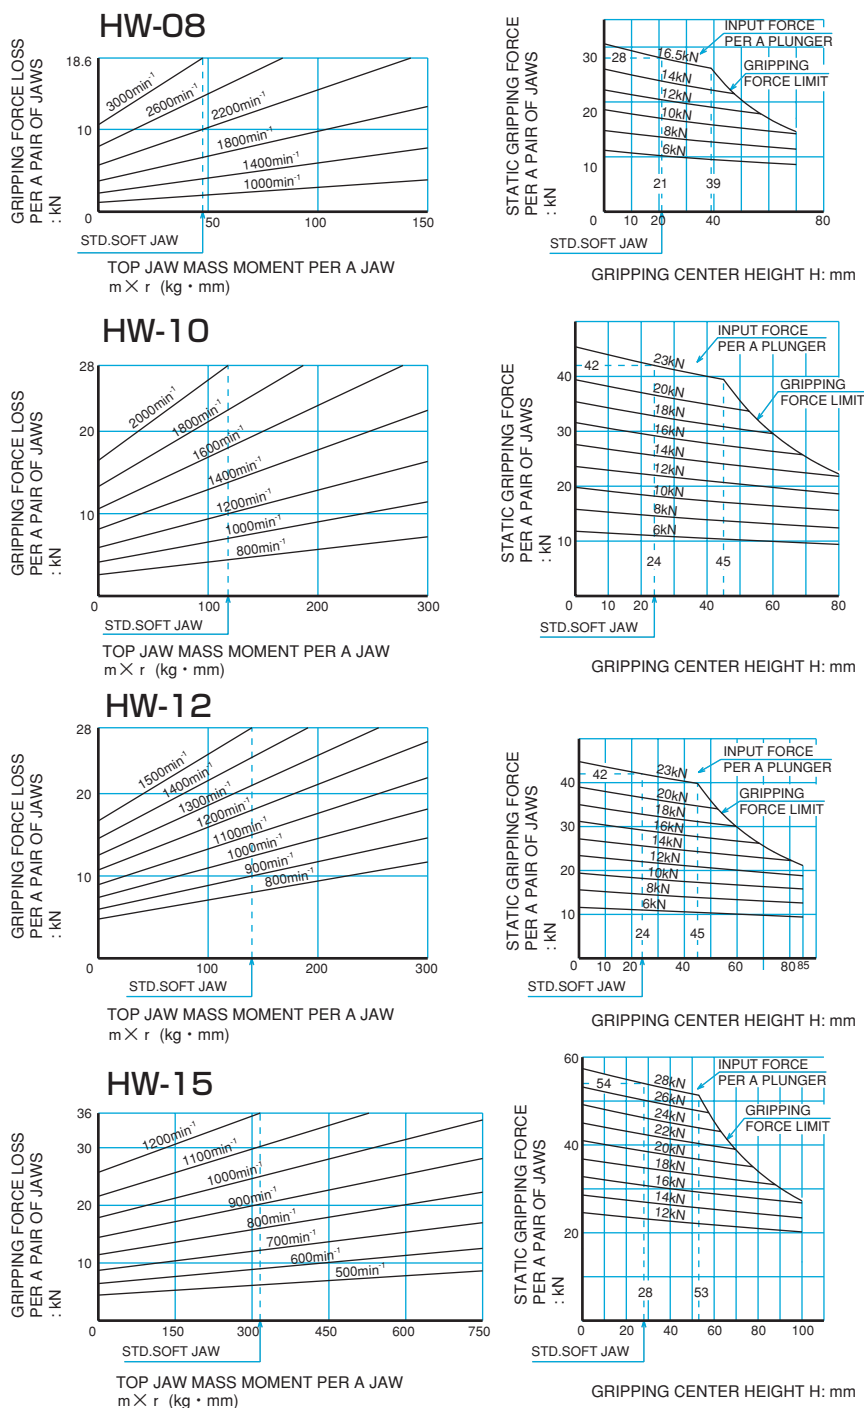

Fig.8
- Keep the height of the top jaw within the range of the gripping force limit table. (Refer to Fig.8)
Analysis of the gripping force, input force and rotation speed using Fig. 8 is carried out as shown below.
The required static gripping force and input force required at the rotation speed in use are predicted from Fig.8, however, it contains a number of hypothetical conditions. Therefore, it is necessary to only use these as reference, and the processing conditions must be determined after trial cutting without fail.